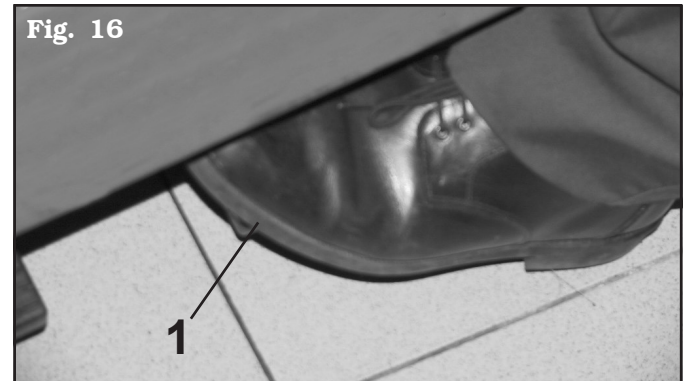

Fig. 16
3 - Push the pedal (**Fig. 16 ref. 1**) downwards in order to control mandrel's clockwise rotation.